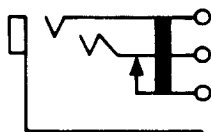

Fig. 1—300A Jack
2.01 **300A:** This single-mounted jack (Fig. 1) is used with the 310 plug. This jack is heavily insulated and should be mounted with springs in a vertical plane.